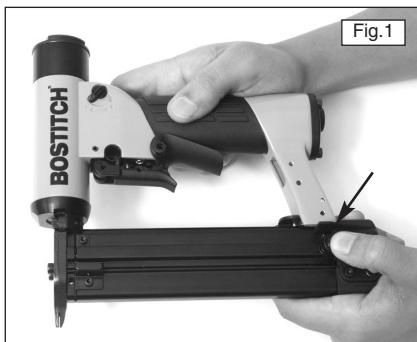

Fig.1
1. Depress the spring loaded lever as shown in Fig.1.